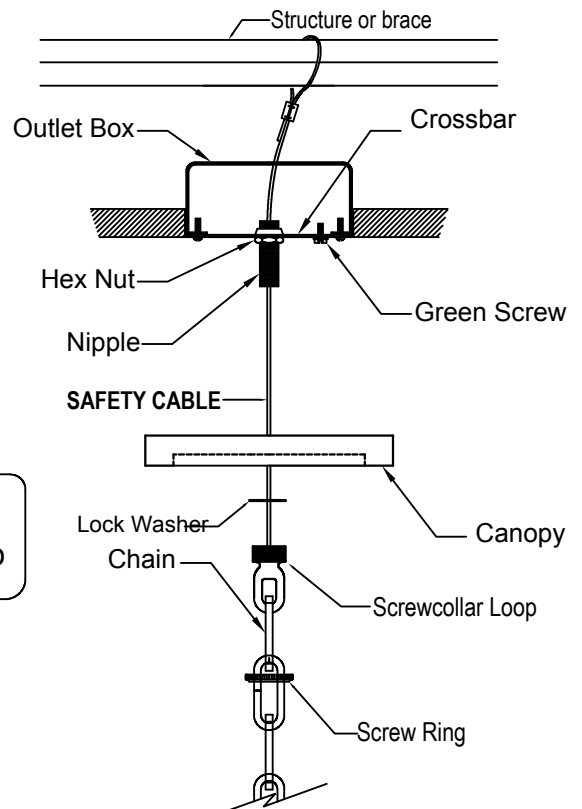

FIGURE-1
1. Attach the crossbar to the outlet box. (The green screw should face the floor). Attach the safety cable to the building structure or brace. See figure-1.